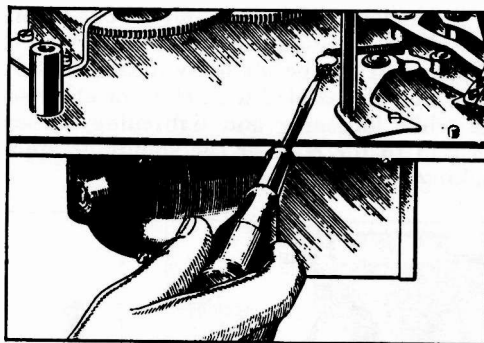

Figure 6—Adjusting tone arm locating screw
- (b) **Improper adjustment of tone arm locating screw.** This adjustment, shown in Figure 6, can be used to make a substitute adjustment for that described in (a), when the mechanism is out of the cabinet. Make the adjustment so that the needle will lower exactly $\frac{1}{16}$ " from the first groove on a standard 10-inch record. Loosen the lock nut on the adjusting screw by means of a No. 4 Spintite wrench on which the shoulder has been ground sufficiently thin for clearance. *Do not attempt to make this adjustment without first loosening the lock nut.* Tighten the lock nut when the proper adjustment has been made.
(4) FAILURE OF NEEDLE TO LOWER ONTO RECORD SURFACE